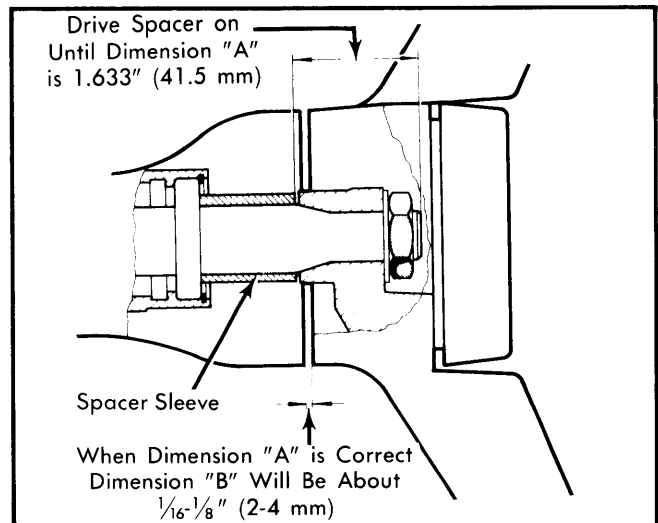

Fig. 2 Dimensions for Installing Spacer Sleeve
**Installation** — 1) Refit switches together with screw and spacer sleeve. Slide switch assembly onto column and hook up wires. Refer to Fig. 2 for how far to drive on spacer sleeve.